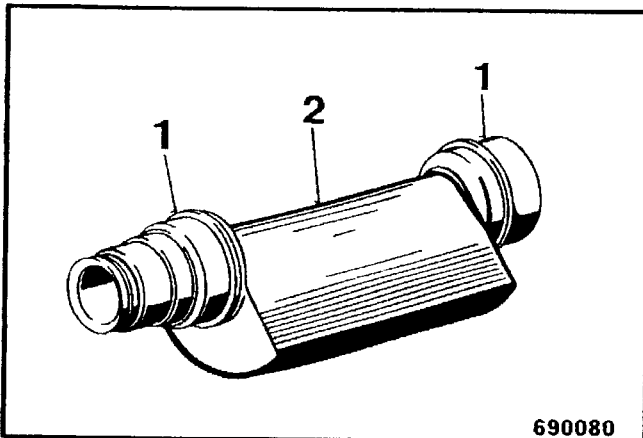

Fig. 1
- Heat the inner bearing rings 1 (Fig. 1) up to approx. 80 °C ... 100 °C and let them shrink onto the fitting areas of the exciter shaft (2).